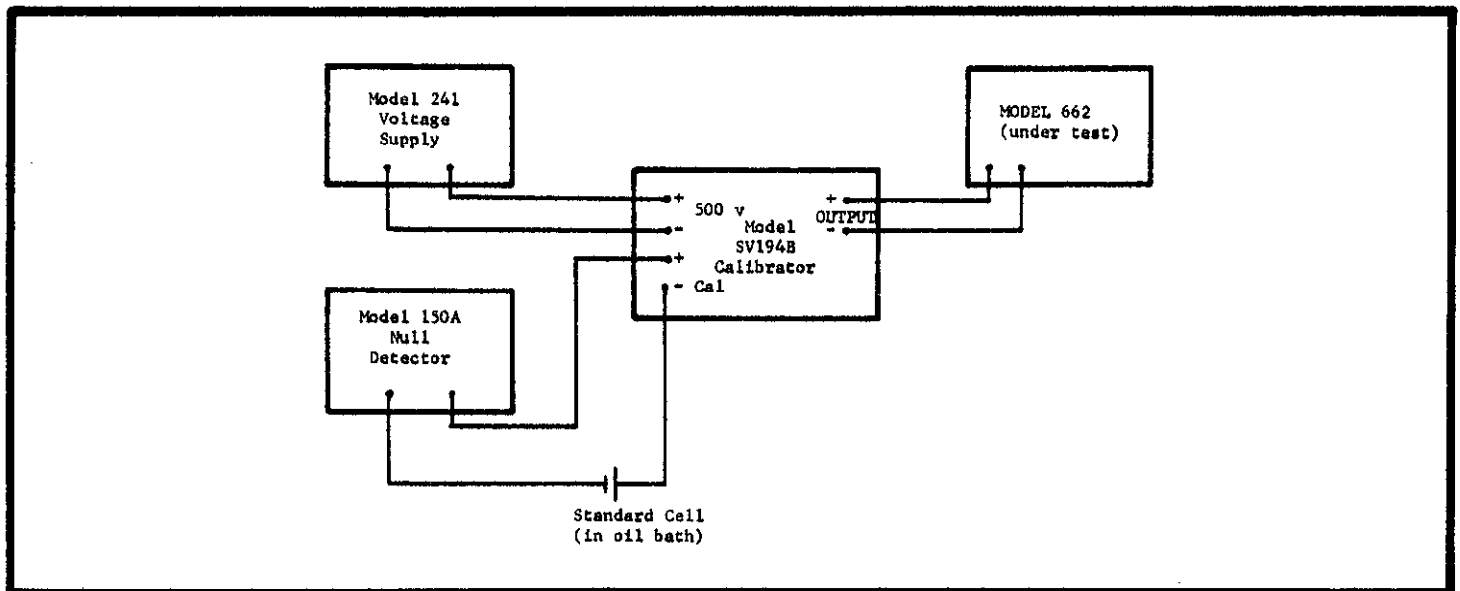

FIGURE 12. Block Diagram for Model 662 Range Calibration. Fully guard the entire system to prevent leakage errors. See Table 5 for recommended equipment.
1. Set up the system shown in Figure 12. The standard cell should be certified to 10 ppm. Use the dial correction factors found for each output. If the system accuracy was properly determined, the input voltage to the Model 662 should be correct to 20 ppm.